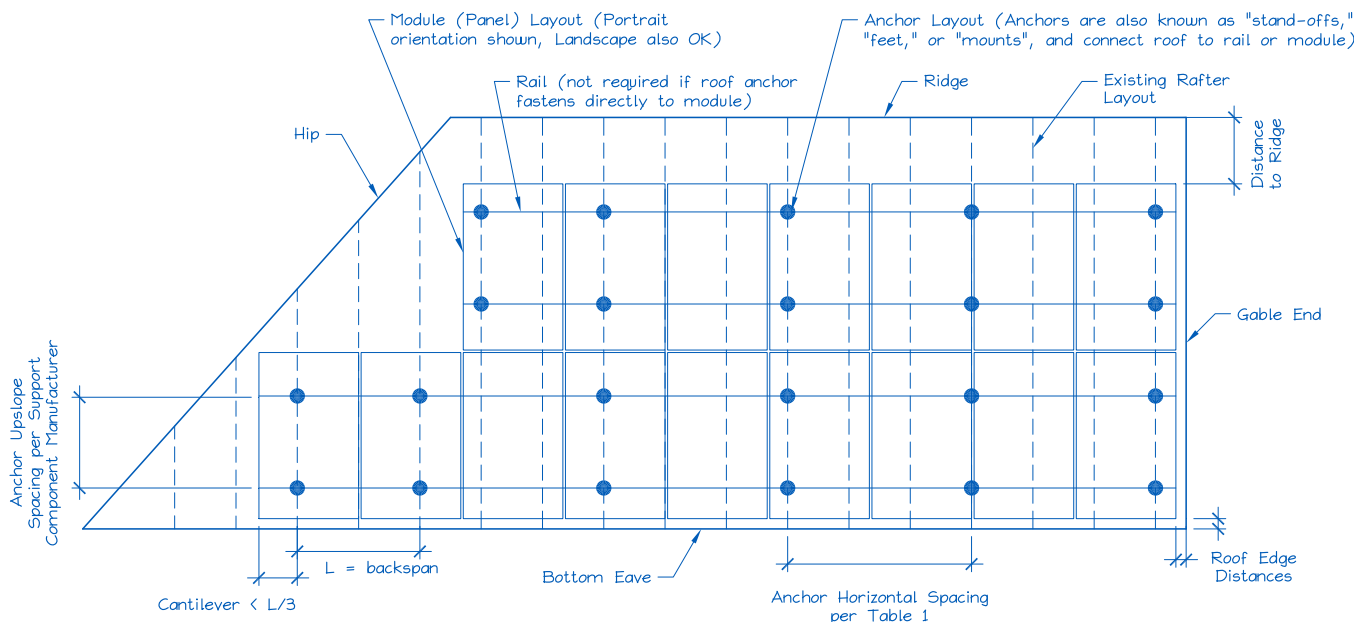

Figure 2 - Sample Solar Panel Array and Anchor Layout Diagram (Roof Plan).
E. Is a roof plan of the module and anchor layout attached? (see Figure 2)
- 1) Proposed anchor horizontal spacing (see Figure 2): _____' - _____"ft-in
1. Anchors are also known as “stand-offs”, “feet”, “mounts” or “points of attachment”. Horizontal anchor spacing is also known as “cross-slope” or “east-west” anchor spacing (see Figure 2).